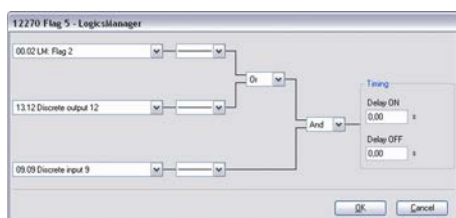

Fig. 199: LogicsManager function "Flag 5"
6. ➤ Configure the LogicsManager function "Flag 5" as shown in (Fig. 199).